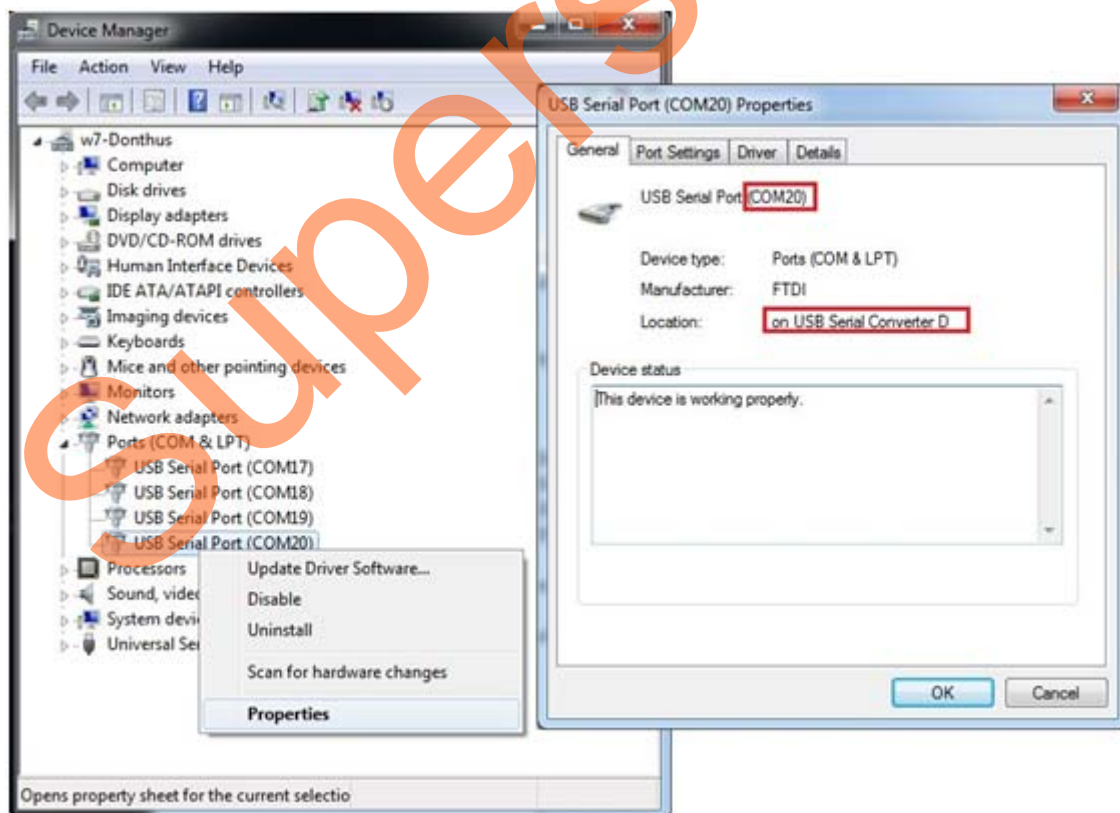

Figure 4 • USB to UART Bridge Drivers
4. Of the four COM ports, select the one with **Location as on USD Serial Converter D**. Figure 4 shows an example of the **Device Manager** window that has the **USB Serial Port** and its **properties** showing the port number and location. The COM port number is required to run the demo design, make a note of it.